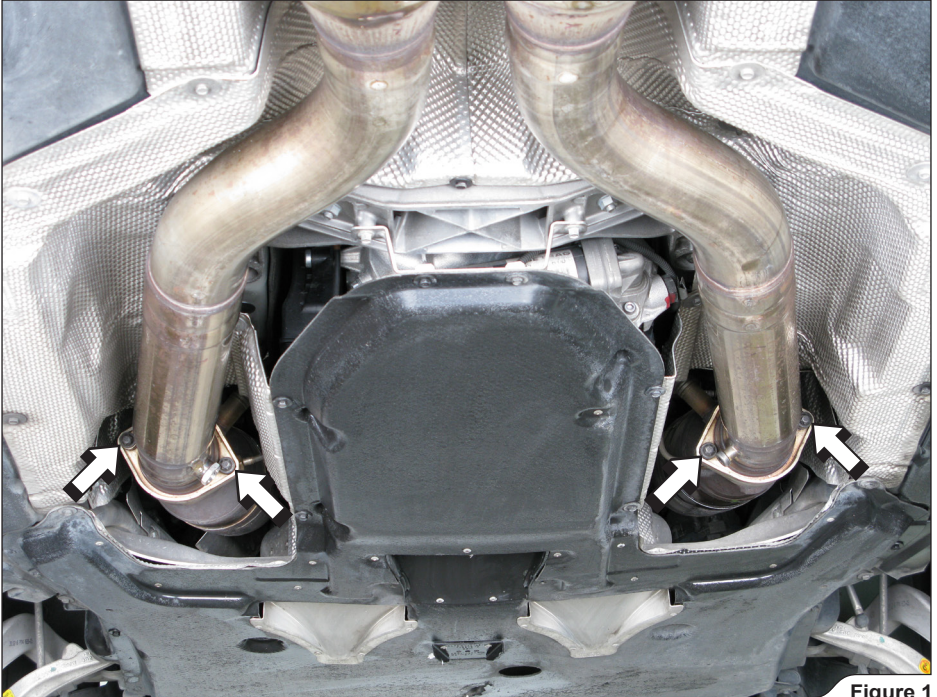

Figure 1
1. **For Slip-On and Evolution:** unscrew the marked M8 bolts and nuts from stock header flanges (**Figure 1**).